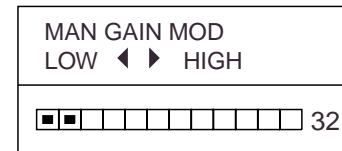

Figure 1-6 Dialog box for manual adjustment of gain
2. Press the [GAIN] key once or twice to display the screen shown in Figure 1-6.